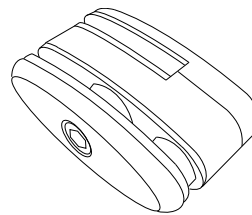

Fig. 7
8. Repeat for the second Side Wing (Fig 7)